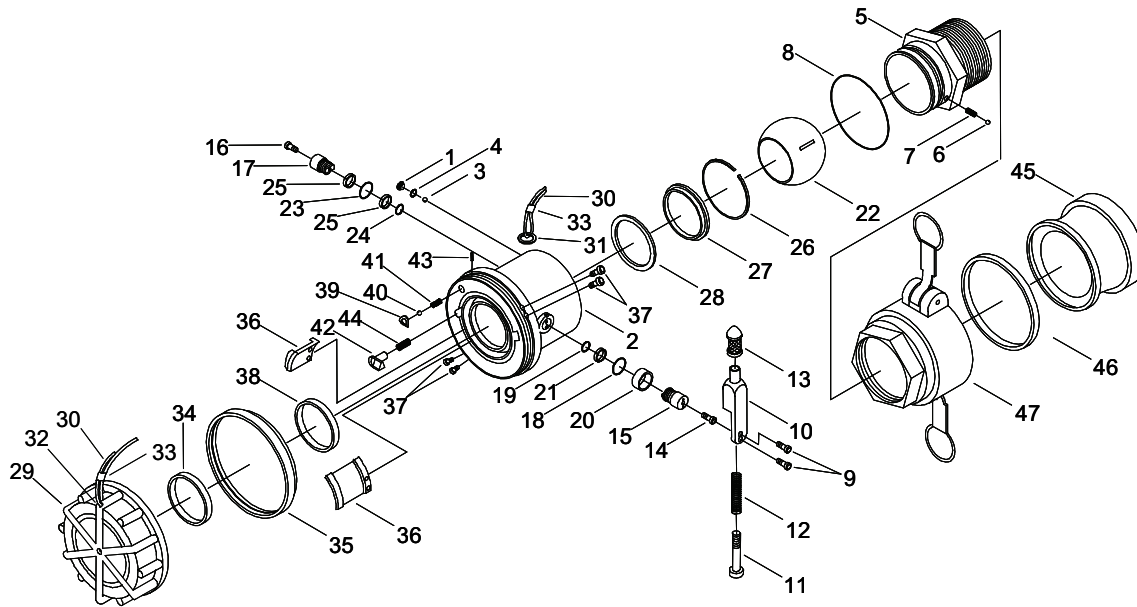

Figure 1. 4 In. Female X 3 In. Unisex Adapter.
6. With the control arm (Figure 1, Item 17) in the open position, apply pressure of 5 PSI (34.47 kPa) to the repaired (dry-break valve) coupling assembly.
10. Close the control arm (Figure 1, Item 17) and disconnect the repaired (dry-break valve) coupling assembly from the similar (dry-break valve) coupling assembly by rotating the couplings in a counterclockwise direction.
12. With the control arm (Figure 1, Item 17) in the closed position, apply pressure of 5 PSI (34.47 kPa) to the repaired (dry-break valve) coupling assembly.
15. Reduce pressure from the test system, remove repaired (dry-break valve) coupling assembly from the test system and install dust cap (Figure 1, Item 24).
Screw (Figure 1, Item 1) is a self-locking screw and is designed to be reused up to 15 times before replacement. If a torque wrench is not used to remove screw (Figure 1, Item 1), then screw (Figure 1, Item 1) should be replaced.
1. While removing screw (Figure 1, Item 1) from coupling (Figure 1, Item 2), use a torque wrench and screwdriver bit to check running torque. If running torque is less than 9.5 in. lb (1.07 N-m), discard screw (Figure 1, Item 1).
Keep inlet hole in the up position when removing screw (Figure 1, Item 1) to prevent loss of ball bearings (Figure 1, Item 3) inside coupling (Figure 1, Item 2).
2. Remove screw (Figure 1, Item 1) from coupling (Figure 1, Item 2).
3. Remove o-ring (Figure 1, Item 4) from screw (Figure 1, Item 1).
4. Discard o-ring (Figure 1, Item 4).
Ensure all 41 ball bearings (Figure 1, Item 3) are accounted for during disassembly.
5. Hold coupling (Figure 1, Item 2) with screw hole toward cleaning cloth and rotate inlet fitting to allow ball bearings (Figure 1, Item 3) to fall onto the cleaning cloth.
When removing inlet adapter (Figure 1, Item 5), retain ball bearing (Figure 1, Item 6) and spring (Figure 1, Item 7). Place cleaning cloth around the inlet adapter (Figure 1, Item 2) to prevent loss.
6. Remove inlet adapter (Figure 1, Item 5) from coupling (Figure 1, Item 2).
7. Remove o-ring (Figure 1, Item 8) from outer groove of inlet adapter (Figure 1, Item 5).
8. Discard o-ring (Figure 1, Item 8).
9. Remove screws (Figure 1, Item 9) from control arm (Figure 1, Item 10).
10. Remove control arm (Figure 1, Item 10) from coupling (Figure 1, Item 2).
If it is necessary to disassemble control arm (Figure 1, Item 10), perform the following steps.
- a. Remove screw (Figure 1, Item 11) from control arm (Figure 1, Item 10).
- b. Remove spring (Figure 1, Item 12) from control arm (Figure 1, Item 10).
- c. Remove knob (Figure 1, Item 13) from control arm (Figure 1, Item 10).
11. Remove screw (Figure 1 item 14) from upper shaft (Figure 1, Item 15).
12. Remove screw (Figure 1 item 16) from lower shaft (Figure 1, Item 17).
13. Using one screw (Figure 1, Item 9), screw into end of upper shaft (Figure 1, Item 15) and remove upper shaft (Figure 1, Item 15) from coupling (Figure 1, Item 2).
14. Remove o-rings (Figure 1, Item 18, 19) from upper shaft (Figure 1, Item 15).
15. Discard o-rings (Figure 1, Item 18, 19).
16. Remove bushings (Figure 1, Item 20, 21) from upper shaft (Figure 1, Item 15).
17. Discard bushings (Figure 1, Item 20, 21).
18. Rotate ball valve (Figure 1, Item 22) to the open position and remove from inside coupling (Figure 1, Item 2).